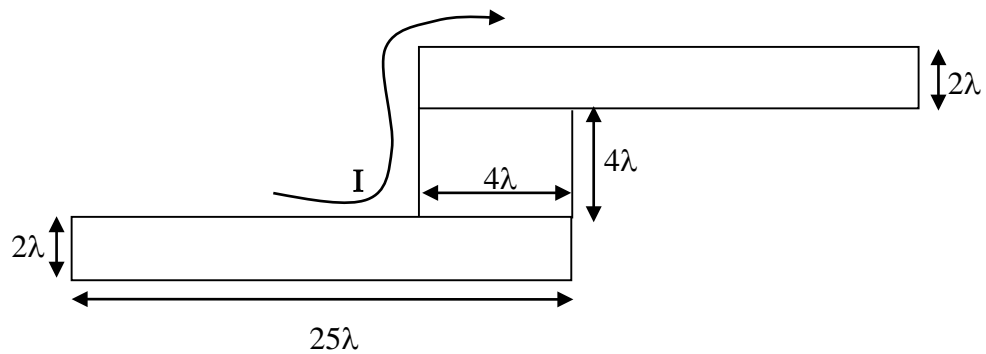

Figure Q1
- (a) Figure Q1 shows a polysilicon wire segment, not drawn to scale. If it has a sheet resistance of $R_s = R_{SM} \Omega/\square$ and a relative capacitance $0.3 \square C_g$, compute the following: